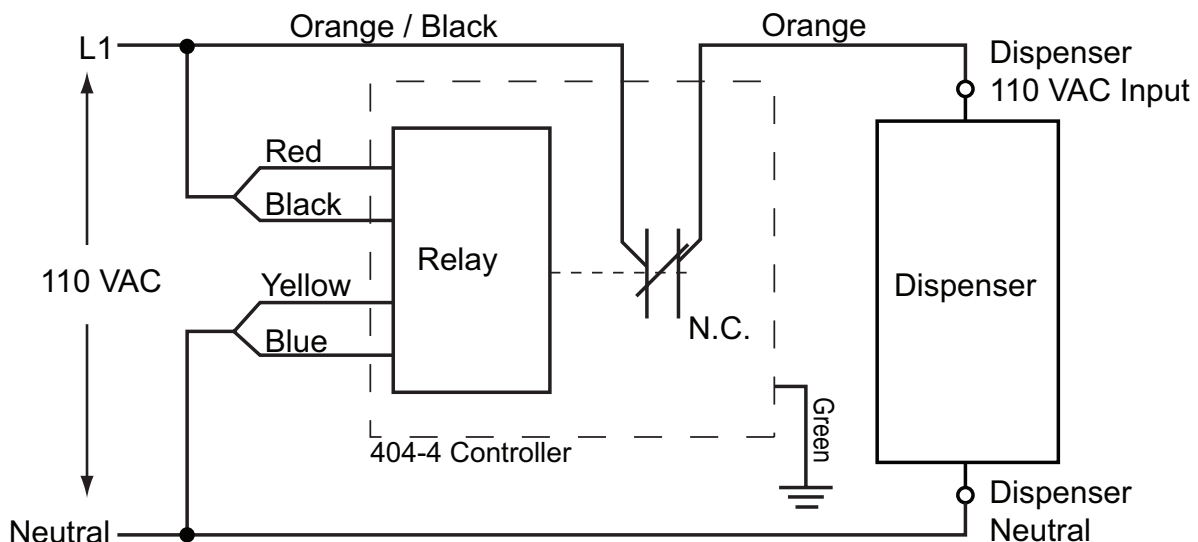

Figure 1: 110 VAC Wiring Schematic for Controller Dispenser Connection
6. Connect the wires as shown in Figure 1.